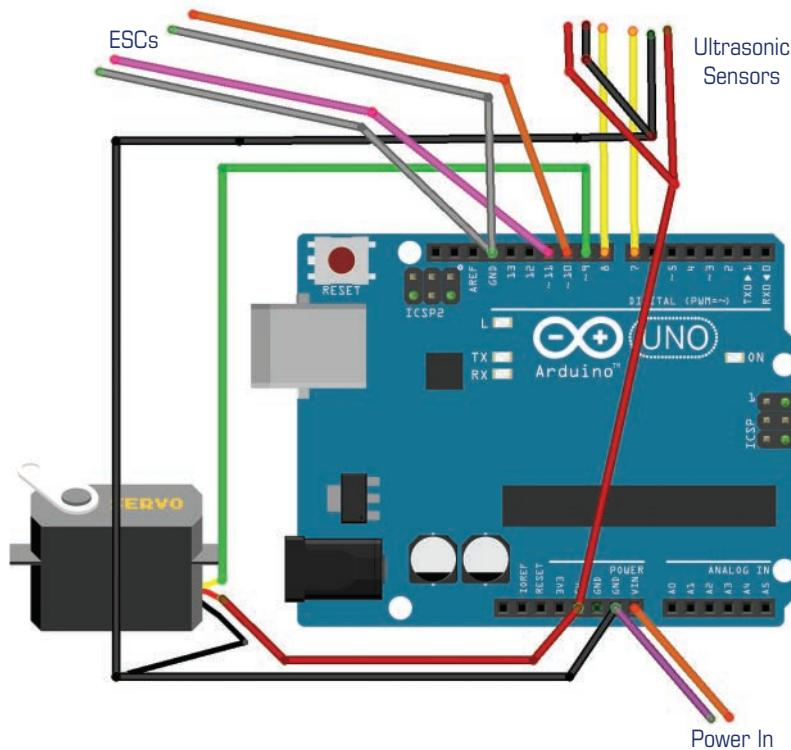

FIGURE 7.22 Swap in an Arduino in place of the receiver.
- Yank out the receiver and replace it with the Arduino, wiring it up as you see in Figure 7.22: